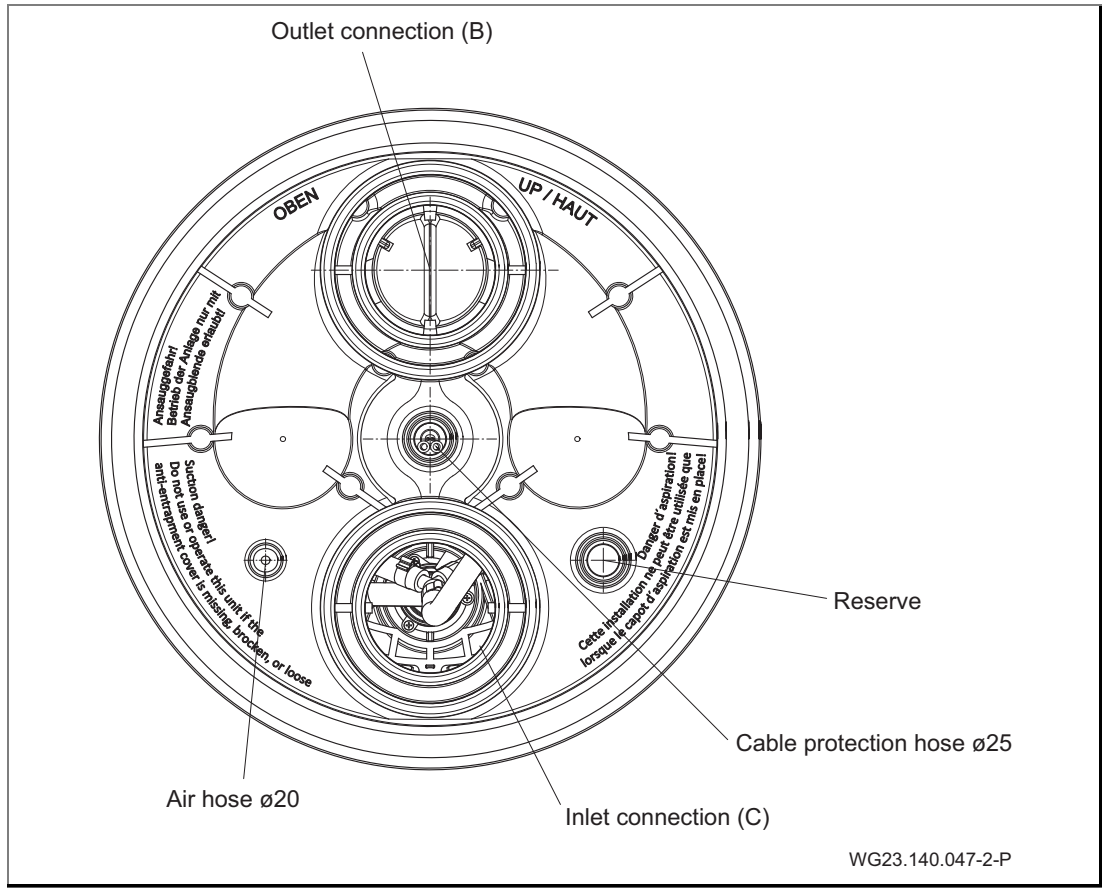

Fig. 15
1. Bond the cable protective conduit and the outer air hose. (Fig. 15)